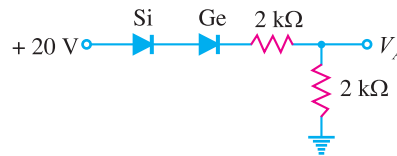

Fig. 6.75
4. Determine the magnitude of V_A in the circuit shown in Fig. 6.75. [9.5 V]